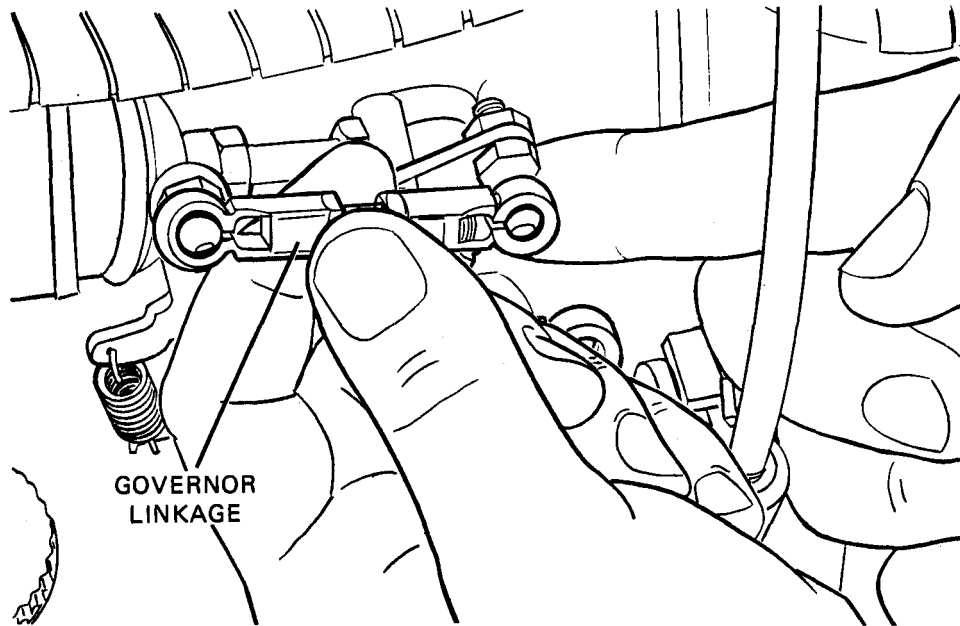

Figure 4-35. Governor Linkage Adjustment.
- (6) Check governor linkage adjustment as follows:
- (b) Rotate external arm counterclockwise toward the governor as shown in Figure 4-35.
- (6) Disconnect governor linkage by removing ball stud nut at either governor or injection pump end (see Figure 4-35). Shorten linkage length by one complete turn and tighten adjusting nuts.
- (7) Reconnect governor linkage (see Figure 4-35). Use two wrench method when tightening nut on ball stud to prevent movement of external arm or governor arm.